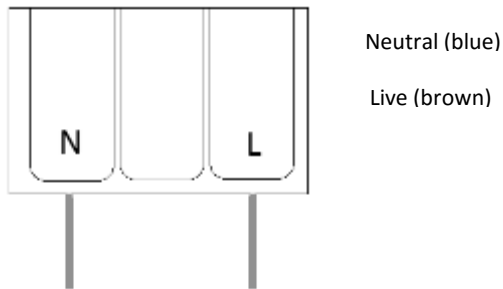

Fig 3
- Connect mains cable into the driver terminal block ensuring correct polarity is observed (see Fig 3)